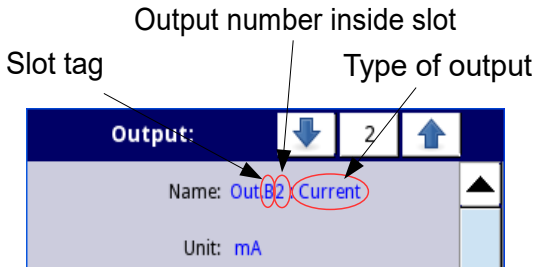

Fig. 7.84. Description of **Name** parameter in **Built-in outputs** menu
- **Name** - each output already has a name given by the device and the user cannot change it, for the description of the **Name** parameter see **Fig. 7.84**,
- **Name** – each output already has a name given by the device and the user cannot change it - see **Fig. 7.84**,